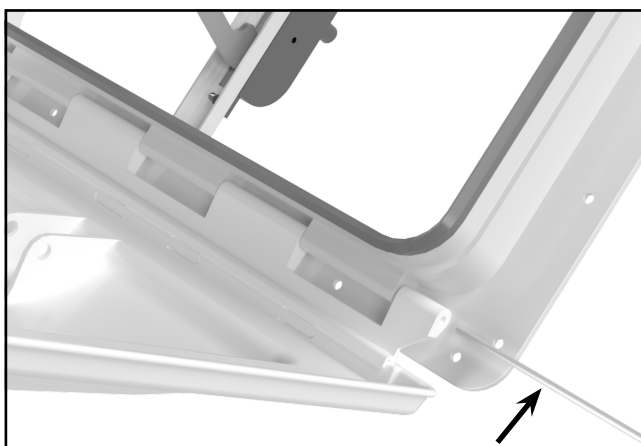

Figure 4
- b. (On the roof). Align the hinge on the lid with the hinge on the vent and insert the hinge rod (**Figure 4**) that was saved from the old lid. Make sure the rod is engaged with both of the outer hinges on the lid and is roughly centered.